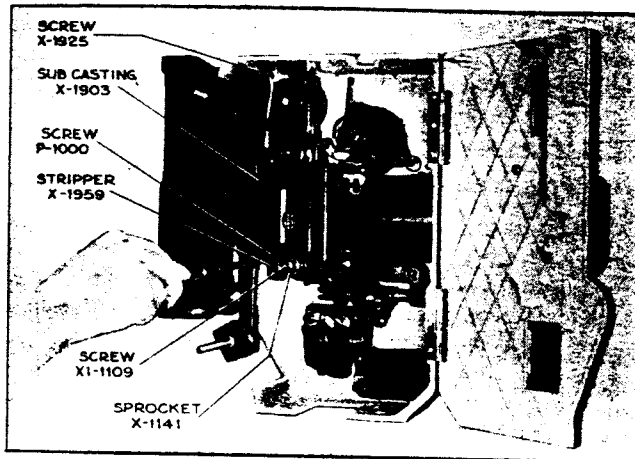

Figure 2—Relieving Film Stripper
2. Relieve film stripper X-1959 by removing screw P-1000 and swinging sub-casting X-1903 toward rear of projector. See Figures 2 and 3.